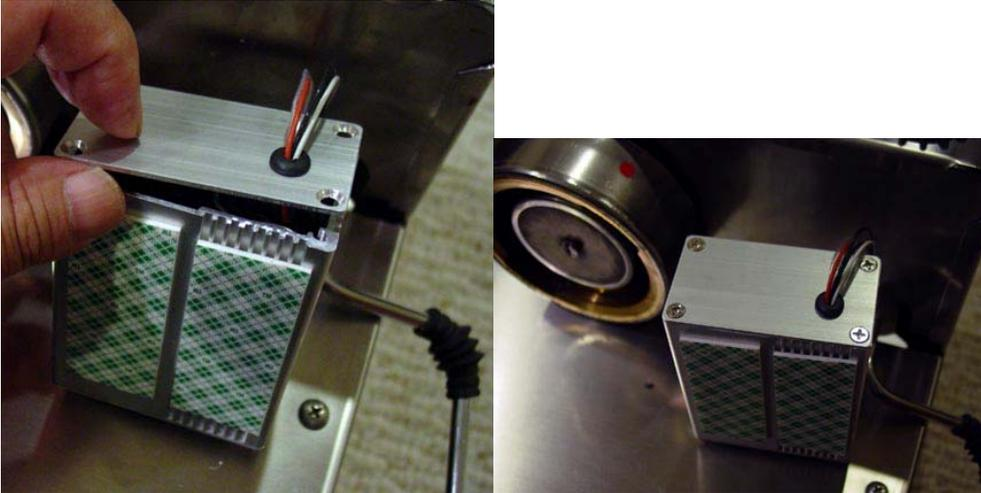

Figure 21. Left, press the back panel on with a little force. Right, screw is on.
- 5) Install the controller to the box. Screw the front panel first. Make sure the surface of the box with double sided tape is on top of the controller. Then, gently pull out the cable from the back panel of the box until it is stopped by strain relief. Screw on the back panel. Make sure the rubber grommet is on the right upper corner (viewing from front) position as shown in Fig. 21.